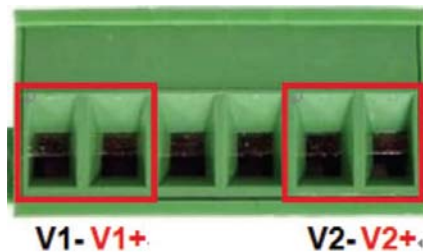

Figure 11. Power Terminal Block
1. Insert the positive and negative wires into the PWR1 (V1+, V1-) and PWR2 (V2+, V2-) contacts on the terminal block connector as shown in figure 11.